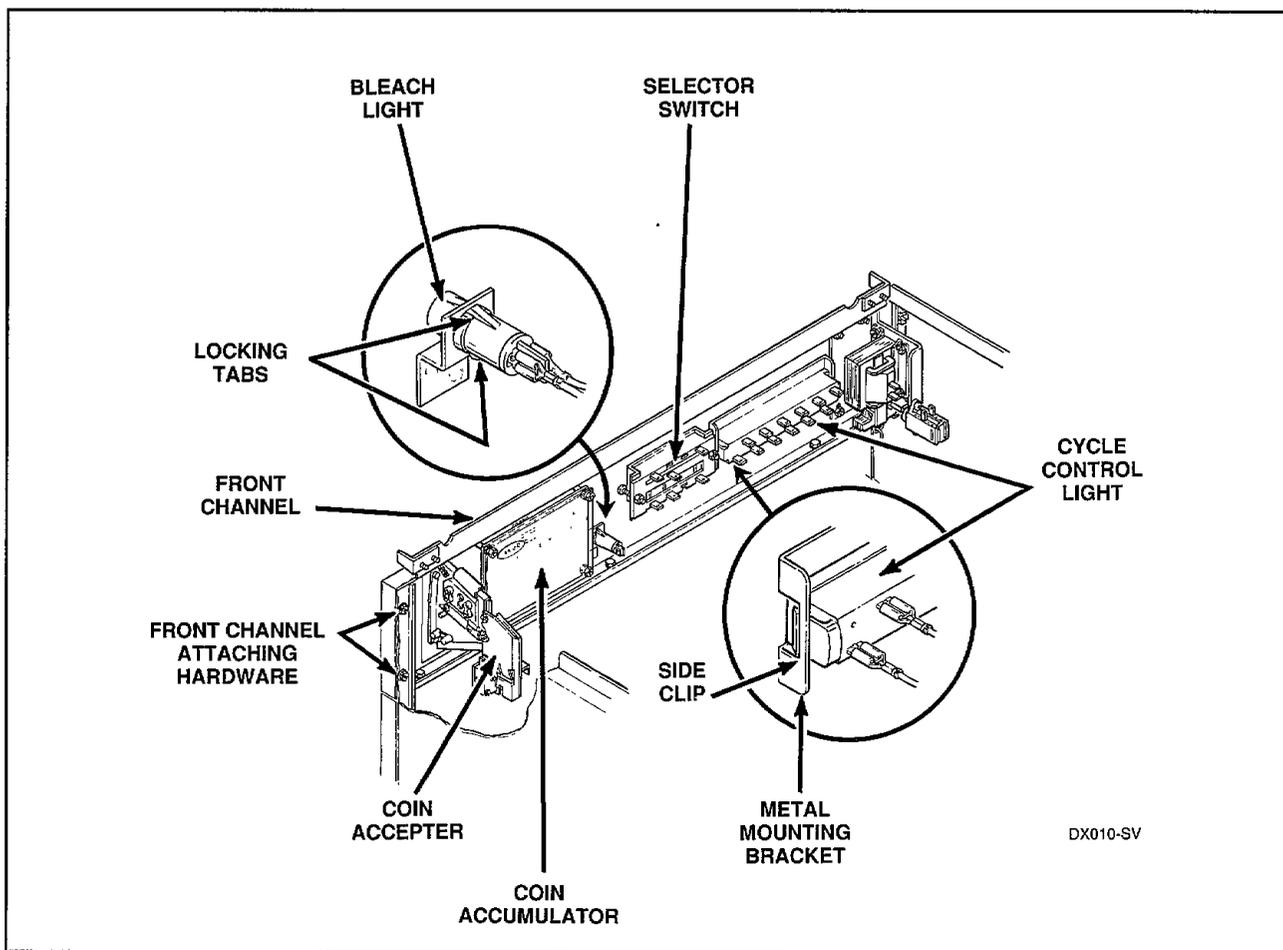

Figure 14
- h. Remove hardware holding front channel to side panel, *Figure 14*.
- f. Remove two nuts holding selector switch to backside of front channel, *Figure 14*.
- e. Using number 93501 Torx Drive Tool, remove the four Torx screws, lockwashers and nuts holding coin acceptor to front channel, *Figure 14*.
- e. Remove nuts holding plastic shield to backside of coin accumulator and remove shield, *Figure 14*. Then remove nuts holding coin accumulator to backside of front channel, *Figure 14*.
- e. Release side clips on metal mounting bracket and remove light, *Figure 14*.
- f. Squeeze locking tabs in on light housing and remove light from backside of front channel, *Figure 14*.